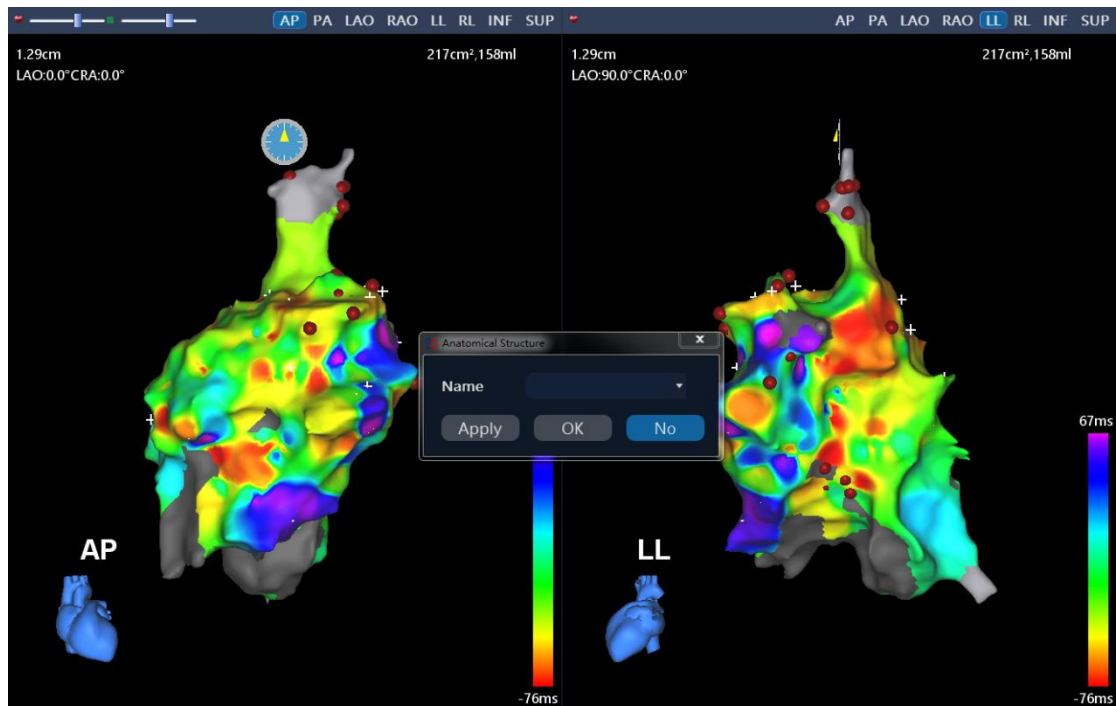

Figure 10-34 RTM. Annular Opening
- 4) Click Apply to determine the number of anchor points. Click OK to open the annulus. (If annular adjustment is not necessary, click "OK" directly to open the annulus, and the shape of the annulus cannot be adjusted directly after opening the annulus) (Figure 10-34).